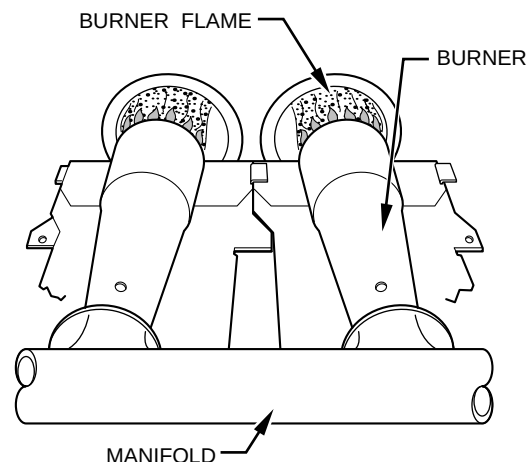

Fig. 12—Burner Flame
- k. Main burner flame should be clear blue, almost transparent. (See Fig. 12.)